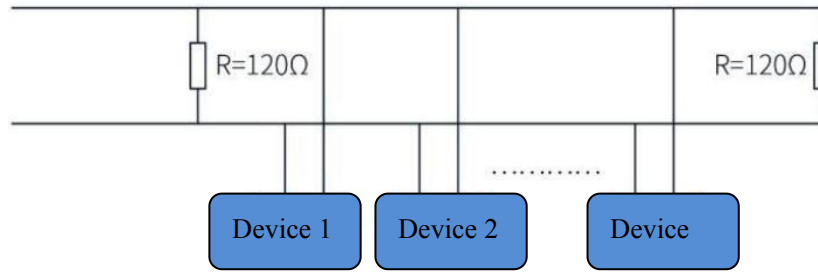

Figure 4-1
- ◆ When using CAN bus protocols to connect multiple devices, please refer to the connection method shown in Figure 4-1 below.